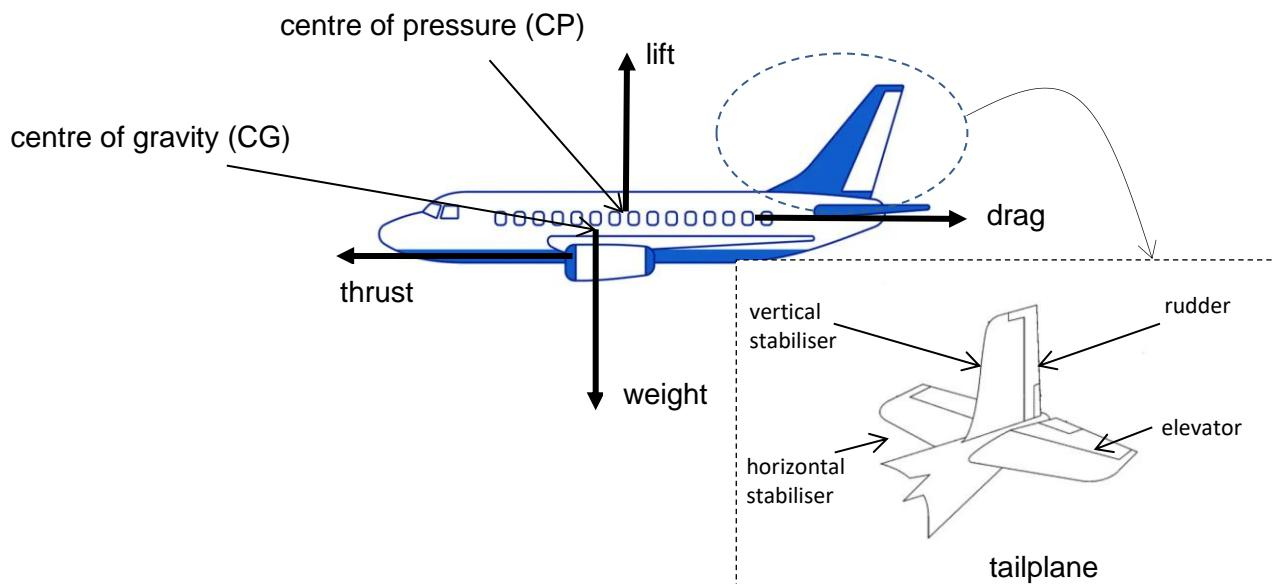

Fig. 7.1
Lift is the upward force on the aircraft acting perpendicular to the wing. While an aircraft's weight is concentrated at the centre of gravity (CG), the lift occurs at the centre of pressure (CP). In the design of aircraft, the CG is fixed forward of the CP as shown in Fig. 7.1 in order to retain flight equilibrium. The tailplane of the aircraft helps to maintain the stability of the aircraft. It consists of a horizontal stabiliser with a fixed wing section and an elevator which could be adjusted to produce a vertical force acting on the rear of the aircraft's body. The vertical stabilizer consists of a rudder which could be maneuvered to produce a force to adjust the sideway movements of the aircraft.
- (a) An aircraft travels in a straight, level flight with a constant velocity as shown in Fig. 7.1. The total weight of the aircraft is 1.5×10^6 N, and the engines give it a forward thrust of 0.60×10^6 N.
1. Fig. 7.1. Source : (<https://www.vectorstock.com/royalty-free-vector/aeroplane-side-view-vector-23448245>)